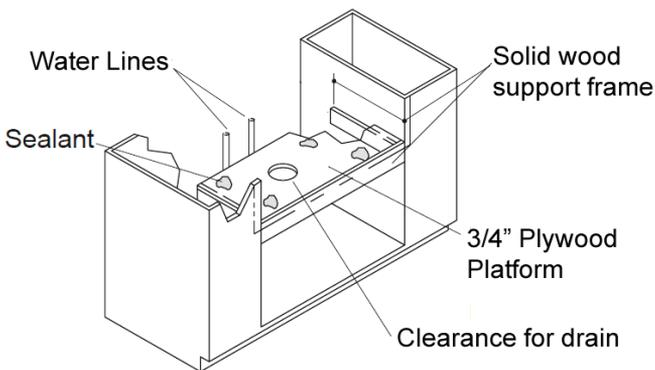

Figure 2
1. This fireclay sink requires custom cabinetry or modification of stock cabinet to ensure proper fit and support. A solid wood SUPPORT FRAME must be constructed under the sink (Figure 2). The support frame must be able to hold up to 300 lbs (weight of the sink when full). Some of the stock cabinets available in the market are made of cheap MDF particle boards and may not have the strength and durability to support a heavy fireclay sink. Ruvati strongly recommends that you consult a professional carpenter or custom cabinet maker for this part of the project.